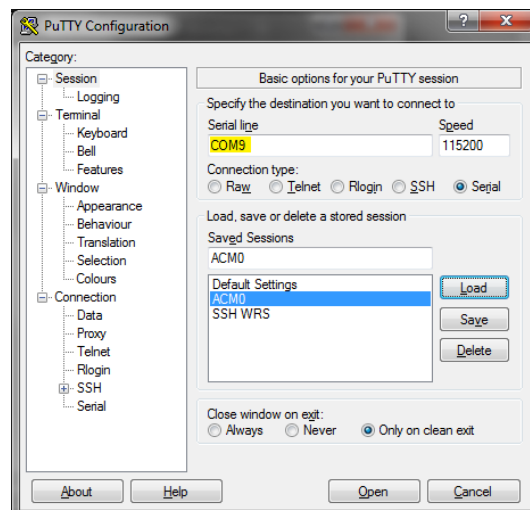

Figure 6: Putty - USB connection.
3. Finally to connect through the USB you just need to open the Putty tool and configure it as indicated in Fig.6. Do not forget to replace the `COM9` port name by the one that corresponds to the USB management.